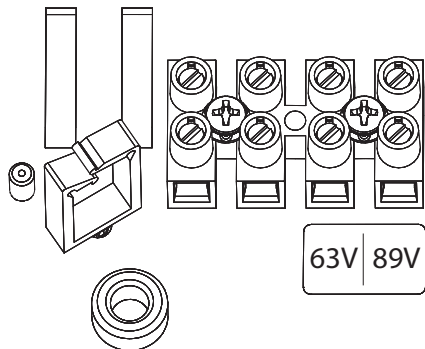
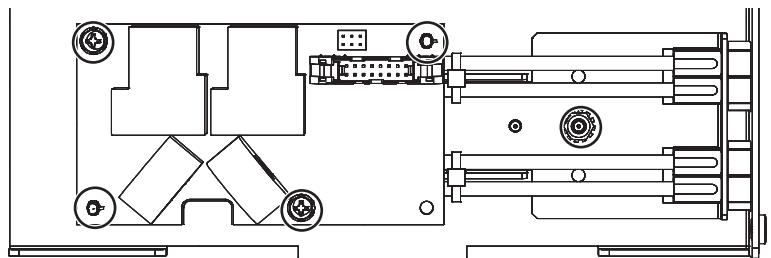

Fig. 1-8, Output Voltage Terminal Block
Fig. 1-9, AlphaDOC Standoff and Screw Locations
3. Remove the output voltage wires from the terminal block, see **Fig. 1-8**.
11. Connect the dual output voltage wires (**Fig. 1-9**), to the output voltage terminal block as shown, see **Fig. 1-8**. Torque terminal block screws to 7 in-lb (0.79 Nm).